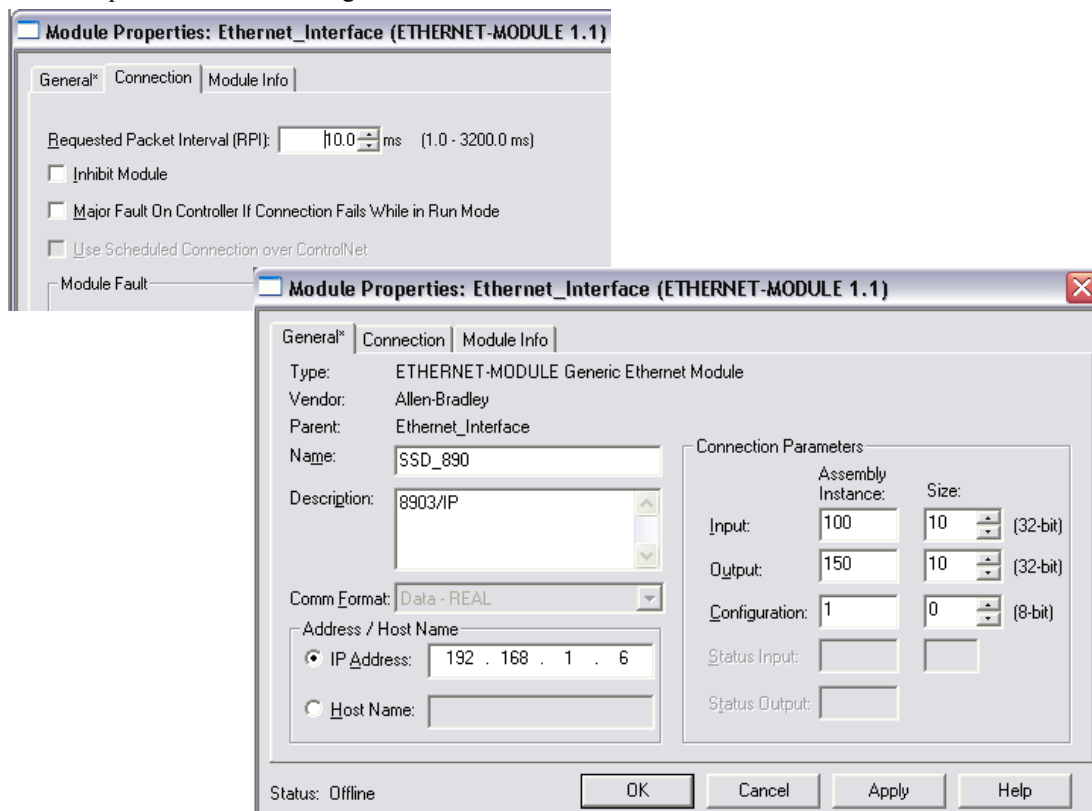

Figure 22 Generic Ethernet Module Setup
- Input the desired module name and IP address. The Comms format will be DATA Int if 16-bit signed integer, or Data-REAL if 32-bit floating point. The Input Assembly Instance is 100 and the Output Assembly Instance is 150. Refer to Figure 22.
- Click on Next to change the Requested Packet Interval (RPI). The default value of 10ms should be sufficient. If the RPI is set below 5ms unreliable communications may be experienced. Refer to Figure 22.